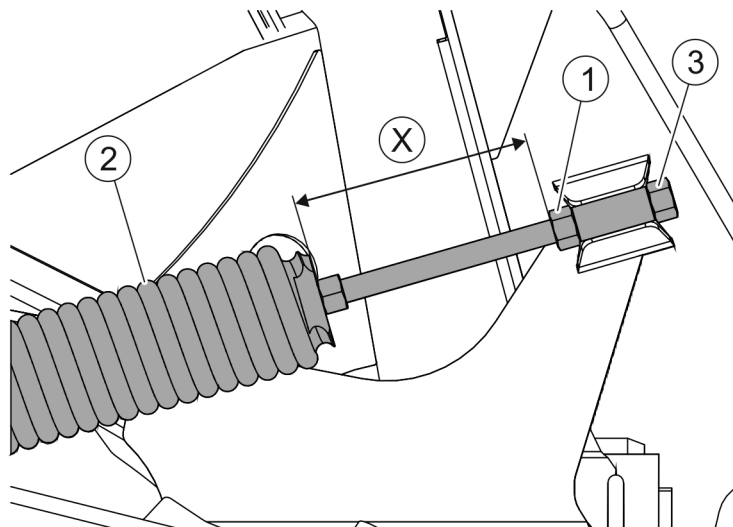

FIGURE 4.7 Adjustment of cutter bar pressure
(1) locking nut, (2) stay spring, (3) adjustment bolt
In order to protect the stubble during cutting and reduce partial wear on slide skates of the cutting unit and also to ensure good ground surface tracking it is necessary to adjust the pressure of the cutter bar on the surface appropriately (FIGURE 4.7). The stay springs (2) are for this purpose. The pressure must be suitable to the ground conditions, the means of movement, type of surface and type of forage mown.